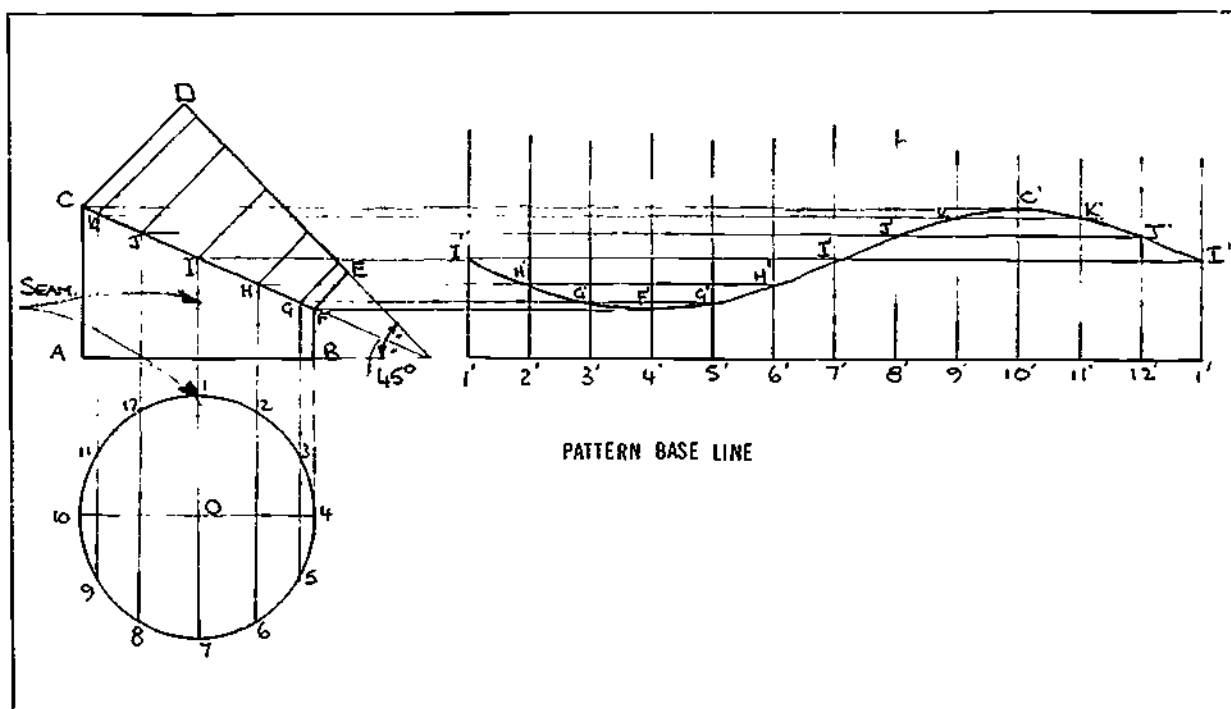

Figure 5-29. Two Piece 45° Elbow
To develop the pattern, draw the elevation (profile) of the elbow full size, using the neutral diameter of the elbow (Figure 5-29).
- Step 2. Draw a line parallel to AB, cutting the perpendicular line at O. With centre O and radius  $1/2$  AB, describe the circle as shown in Figure 5-29.
- Step 6. Divide the pattern base line into 12 equal divisions matching arcs 1-2 through 12-1. A close approximation can be obtained by transferring the lengths from the circle to the pattern base line. Number the divisions as shown in Figure 5-29.
- Step 8. A decision must now be made to identify the seam locations on the elbows. In Figure 5-29, the seam will be on element line 1-1. The key points of the pattern occur where the projected lines from the elevation cut the vertical lines from the pattern base line. By referencing from the circle to the elevation, the intersecting points can be identified as follows: